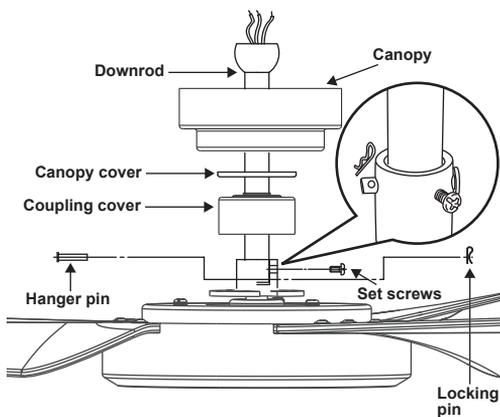

Figure 8
Step 4. Route wires exiting from the top of the fan motor through the coupling cover, canopy cover and canopy, then through the ball/downrod. (Fig. 8)
Step 5. Align the holes at the bottom of the downrod with the holes in the collar on top of the motor housing (Fig. 8). Carefully insert the hanger pin through the holes in the collar and downrod. Be careful not to jam the pin against the wiring inside the downrod. Insert the locking pin through the hole near the end of the hanger pin until it snaps into its locked position, as noted in the circle inset of Fig. 8.
Step 6. Tighten two set screws against the downrod on top of the fan motor firmly. (Fig. 8)